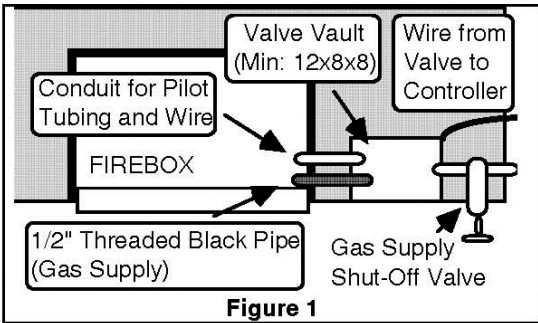
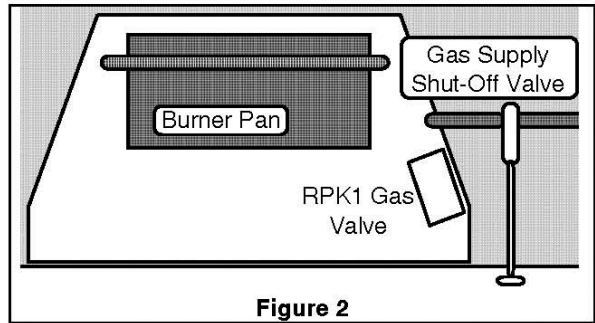

Figure 1
Figure 2
Suggested Firebox Layout and Required Parts: Pilot Control Valves are adversely effected by heat. The best protection is afforded by placing the safety control valve assembly outside the firebox (Figure 1). If the valve is placed inside the firebox, it must be placed as far forward and to the side of the burner pan as possible (Figure 2).
1. Connect **10" Aluminum Connector** between the flared ends of the valve output **3/8 Flared x 1/2 MIP** and the burner input **3/8 Flared x 3/8 MIP Elbow** (Note: do not use pipe compound on flared fittings-wrench tighten only). Bend the **10" Aluminum Connector** to obtain the optimum **Valve** position (**Forward and to the side of the burner pan.** (Figures 1 and 2).